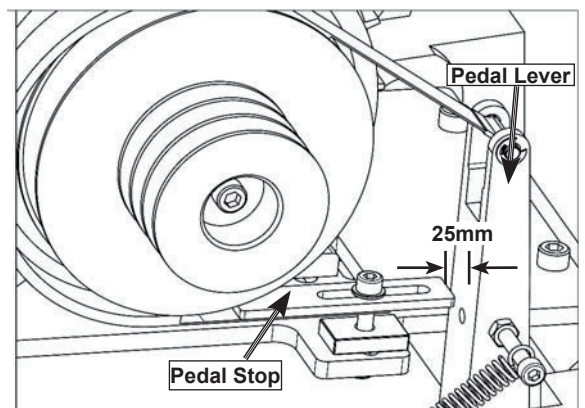

Fig. 93 Pedal travel adjustment
5. Remove pedal stop shown in figure 93.